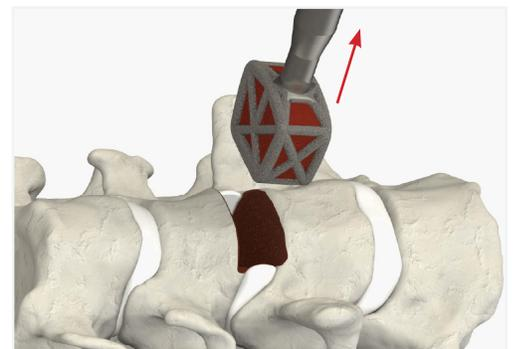

Figure 15
- ▲ The intervertebral space should be distracted in the same manner as for implant placement (Fig. 15). Once distracted, the implant may be removed.